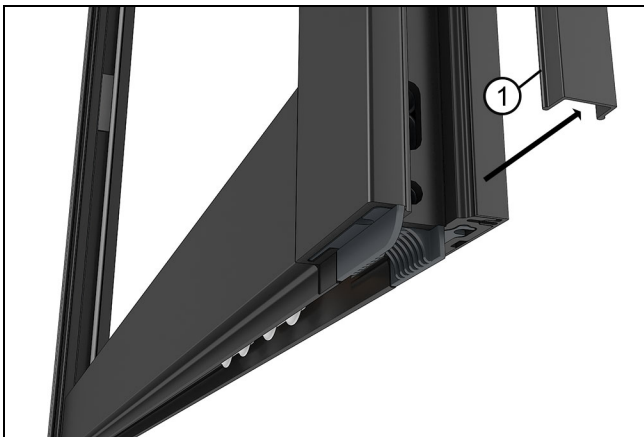

Figure 90
3. Remove the locking stile roller adjustment hole cover. See Figure 90.